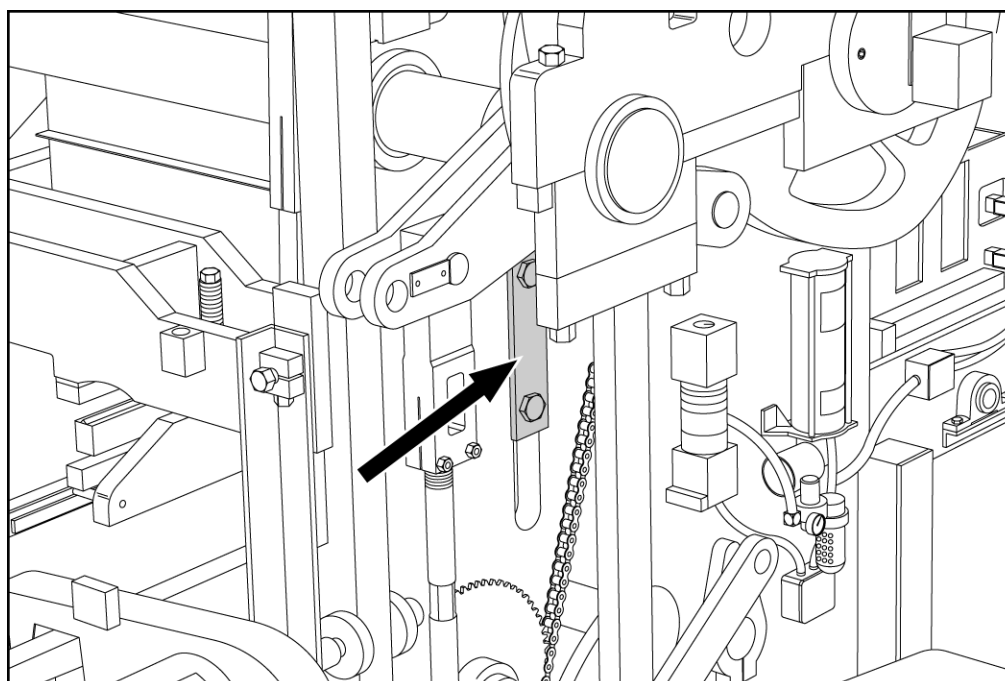

Figure 4.20 LOOSEN "T" CLAMPS ON BOTH SIDES
- a. Loosen the "T" clamps on each side of machine that secure machine side plate to mold throat plate (figure 4.20).